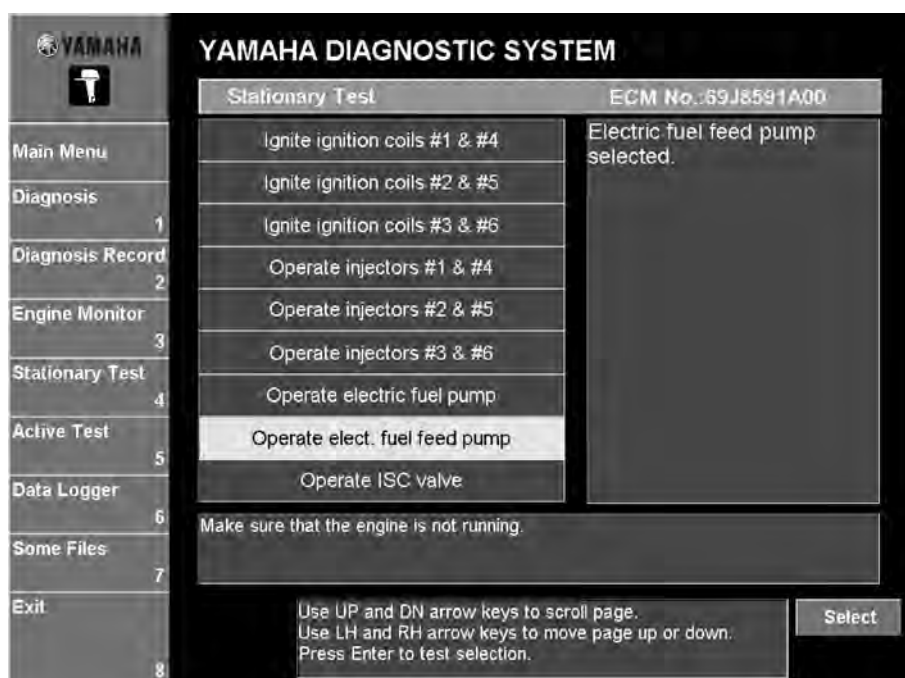

Fig. 84
1. Select the test to be performed, and then click the **Select** button or press the Enter key on your keyboard. (Fig. 84)